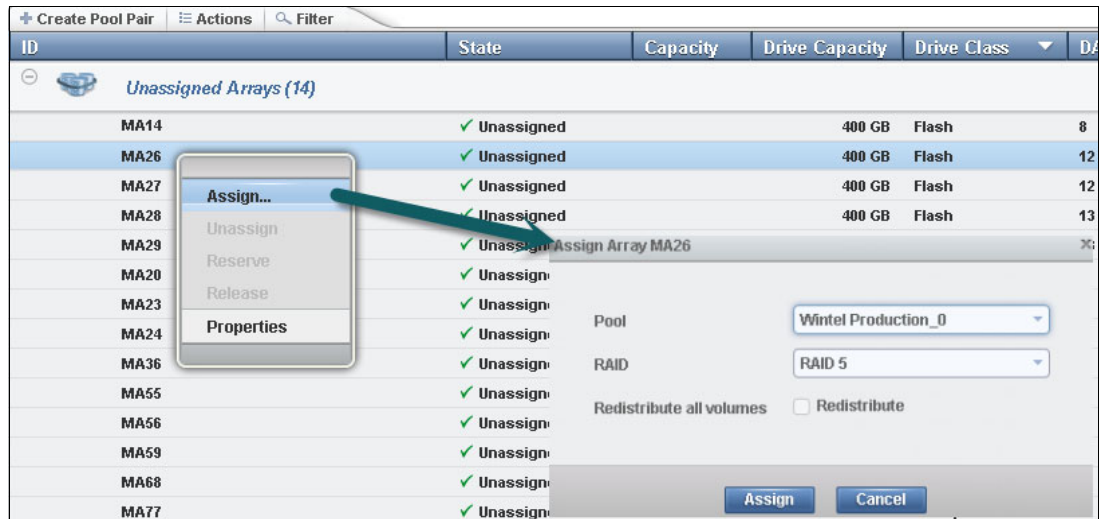

Figure 11-28 Manually assign an array to an existing pool
1. Select an array and click **Assign** or **Reassign**, as shown in Figure 11-28. This action opens the Assign Array window.